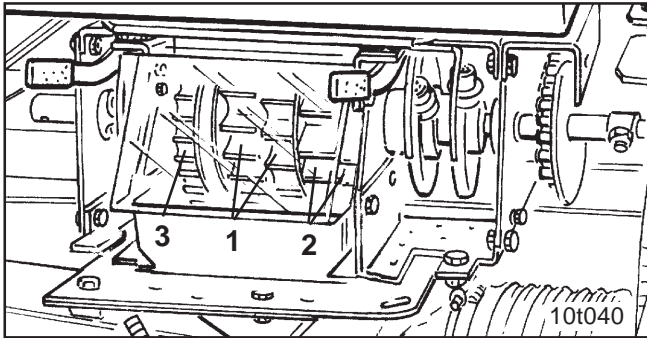

Fig. 15.1
- a white coloured main seed metering wheel (Fig. 15.1/1)
- an orange coloured main seed metering wheel (Fig. 15.1/2)